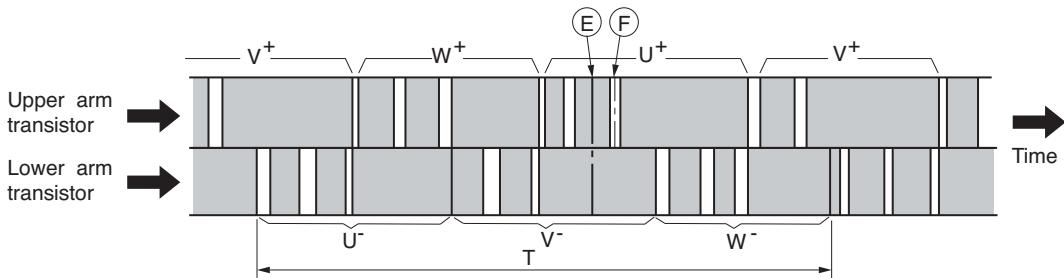

Fig. 4-2 Switching order of power module
Time T in Fig. 4-2 shows the switching period, and relation with rotation speed (N) of the compressor is shown by formula below;